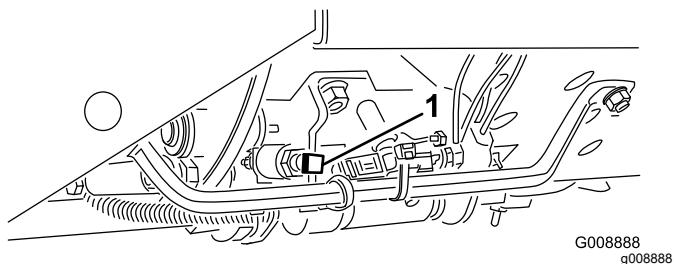

Figure 22
**Important:** The mow speed is set at the factory to 9.7 km/h (6 mph). It can be increased or decreased by adjusting the speed stop screw (Figure 22).